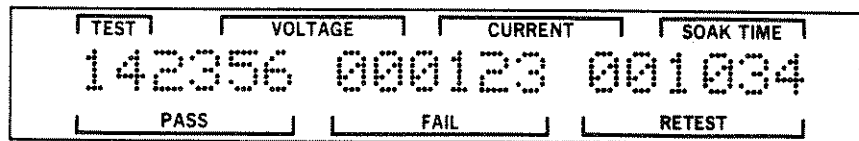

Figure 5-15. Bin Count Totals Screen
- STEP 3. Before the Check Voltage or the Nominal Capacitance can be changed, the Bin Count totals must be set to 0. Press the DOWN pushbutton until the Bin Count Totals screen is displayed. Refer to Figure 5-15.